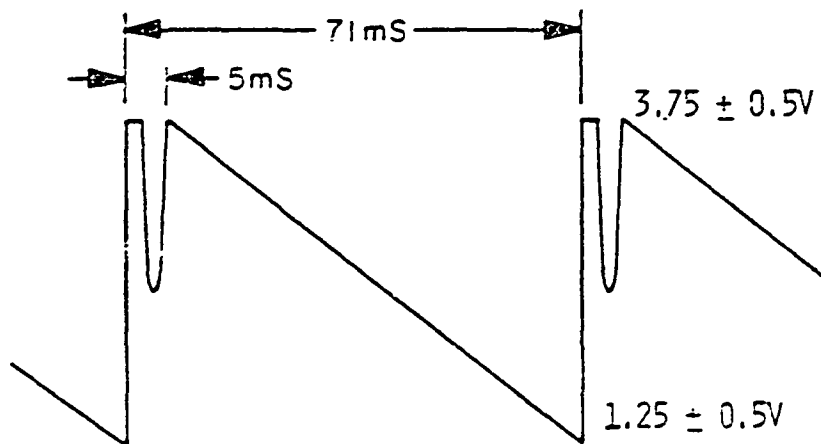

FIGURE 4.11B
* Waveform is a sawtooth shown in Figure 4.11b